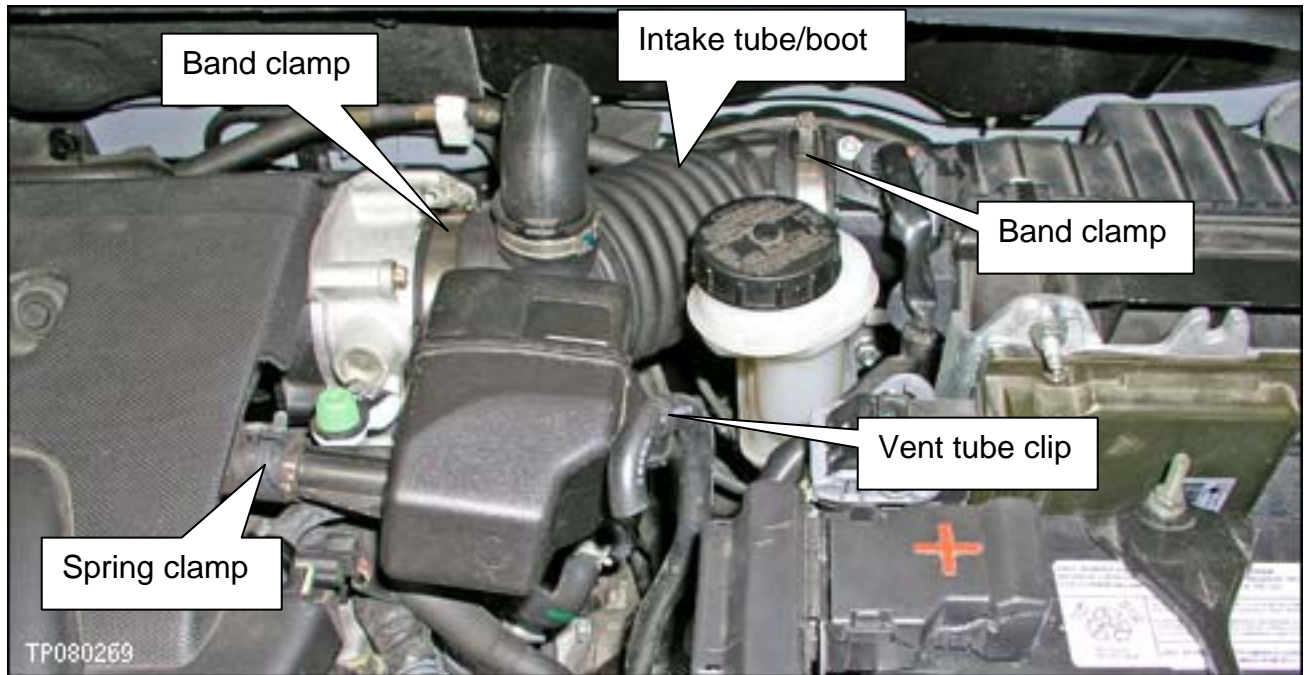

Figure 27
27. Install the air intake tube/boot between the air cleaner assembly and intake manifold (see Figure 27).